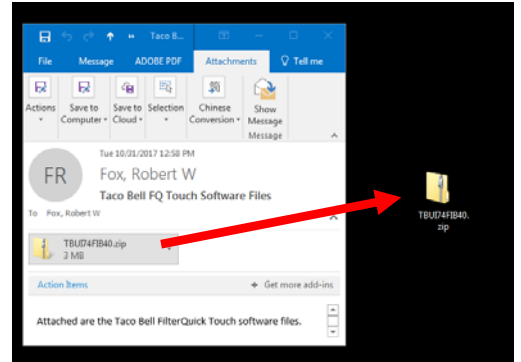

Figure 2
2. Click on the attached file and drag it onto the desktop of the computer (see Figure 2).